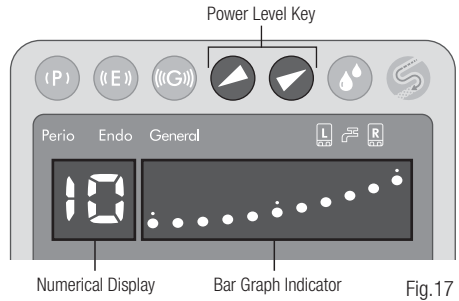

Fig. 17
- 2) Set the power level with the Power Level Key on the Front Panel. The Bar Graph Indicator and Numerical Display will indicate the selected power level. (Fig. 17) Make sure the power level is set in the appropriate range for the attached Tip.